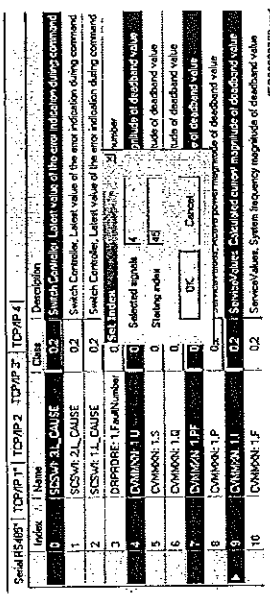

Figure 82: CMT: Set Index menu
- The selection window shows the number of signals selected, see Figure 82.